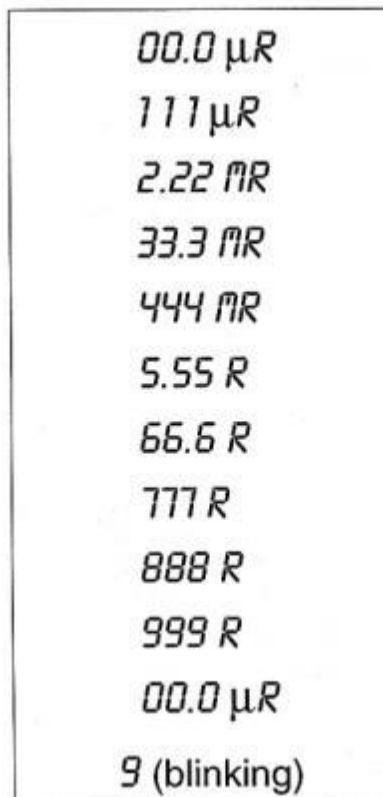

Figure 5 – Test Sequence
- A set of numbers in the following order will appear. Check that all the numbers are displayed exactly as shown in Figure 5.